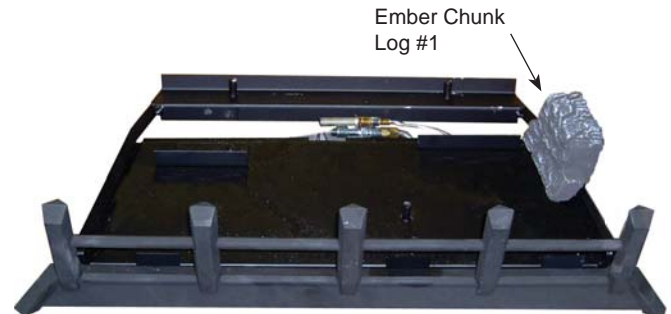

Figure 29
1. Place the #1 log (the "chunk") on the grate bar right side of the burner adjacent to the controls. *Figure 29*